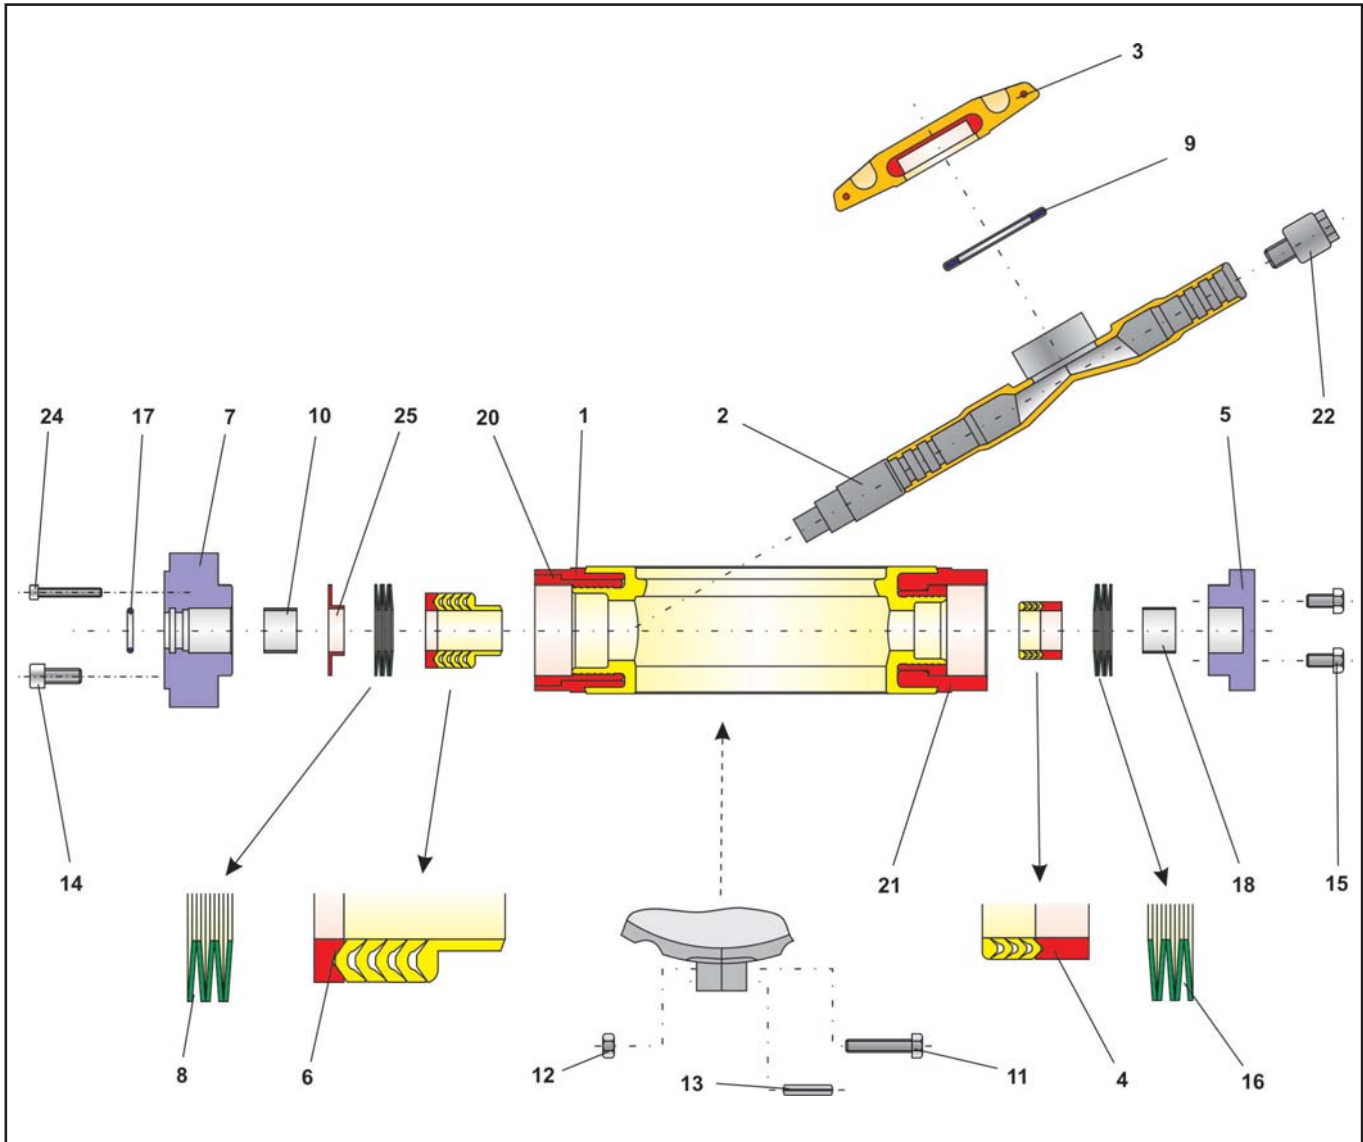

Fig. 5 – Detail drawing of the control butterfly valve Series 10a
Note: The position and arrangement of the individual parts shown in the detail drawing (Fig. 5) are to be observed during assembly.
The PTFE packing (6) is now pushed over the shaft into the body bore and pressed home with an assembly sleeve. The arrangement of the packing is shown in the detail drawing (Fig. 5).
The cup spring assembly (8) is pushed over the shaft and positioned at the appropriate place on the packing. The arrangement of the cup springs is also shown in the detail drawing (Fig. 5).
The PTFE packing (4) is now pushed over the shaft into the body bore and pressed home with an assembly sleeve. The arrangement of the packing is shown in the detail drawing (Fig.5).
The cup spring assembly (16) is pushed over the shaft and positioned at the appropriate place on the packing. The arrangement of the cup springs is also shown in the detail drawing (Fig.5).